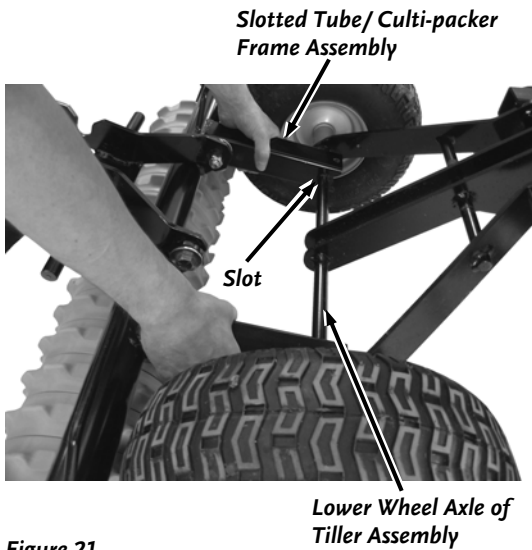

Figure 21
4. Slide the Slotted Tubes of the Frame Assembly onto the Lower Wheel Axle of the Tiller until the Axle is seated into the slot base of both Slotted Tubes (Figure 21).